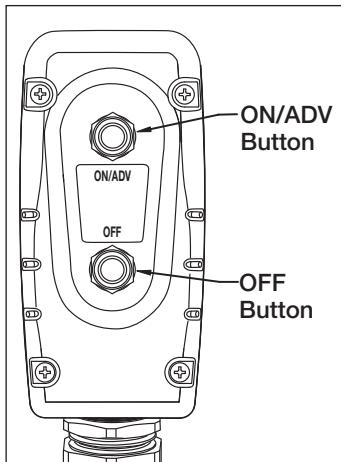

Figure 6, Pendant Buttons
See Figure 6.
1. To start the pump, press the "ON/ADV" button on the pendant. See Figure 6. The motor will start automatically, and the wrench will begin to advance. The wrench will continue advancing for as long as the button is held down. The pressure gauge will show the pressure in the advance circuit.